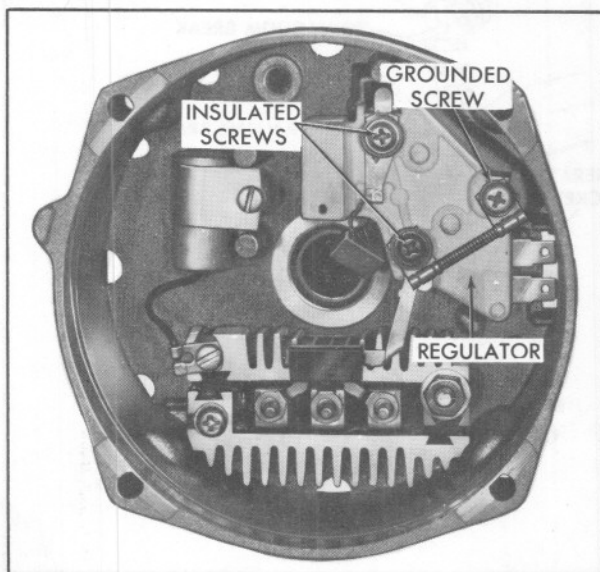

Fig. 6-13 Regulator Attaching Screw Location
4. A grounded brush lead clip can result from omission of insulating washer, Fig. 6-13, omission of insulating sleeve over screw, or damaged insulating sleeve. Remove screw to inspect sleeve. If satisfactory, replace regulator as described in Note 11.
3. Install capacitor and secure to end frame and heat sink with screws, Fig. 6-13.
4. Position regulator in slip ring end frame. Position indicator lamp resistor and brush holder over regulator. Install two regulator mounting screws shown in Fig. 6-13.